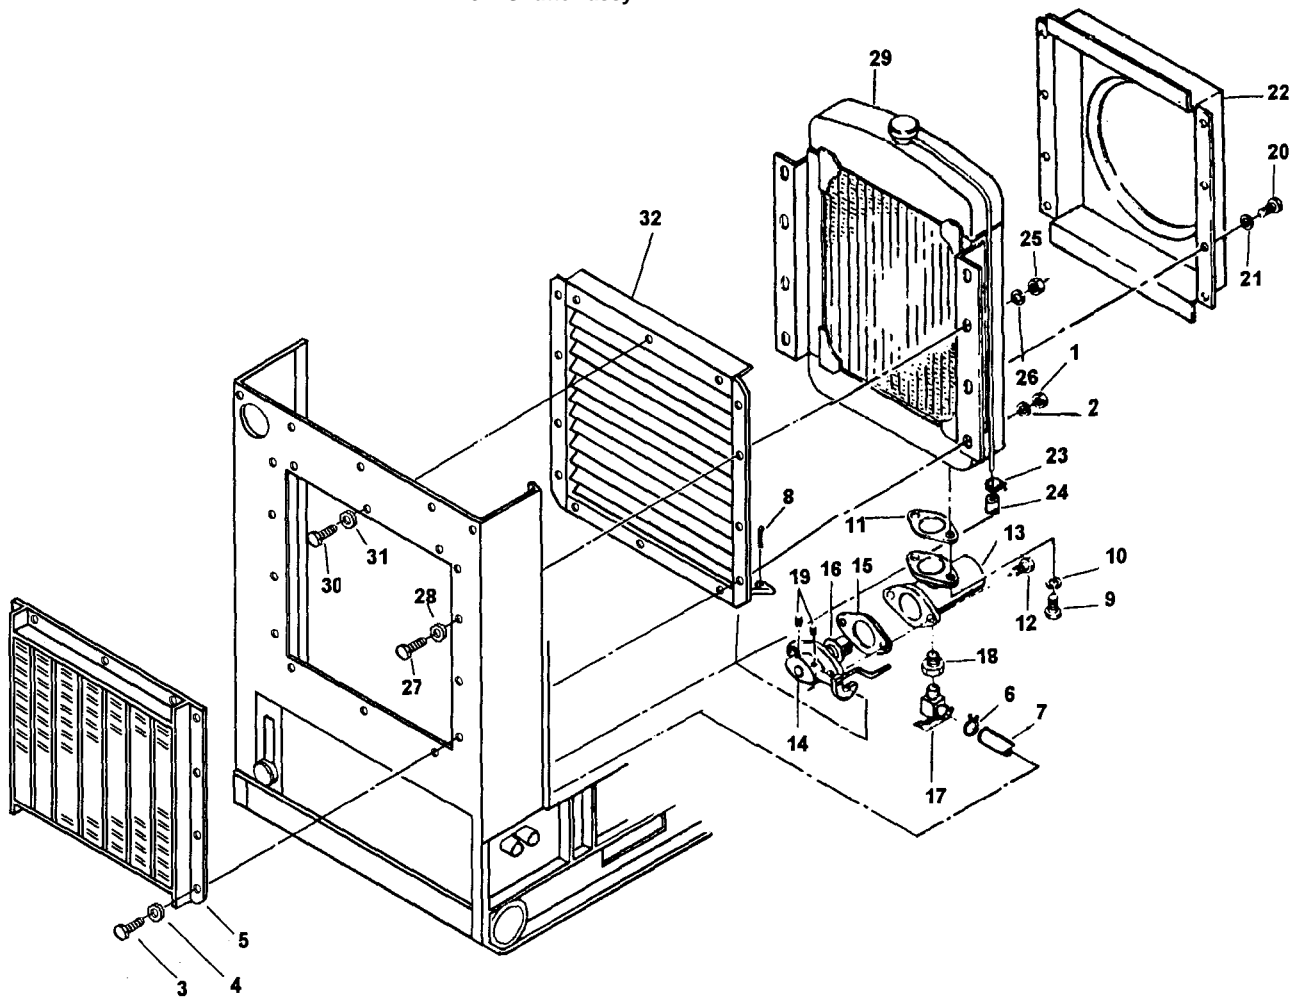
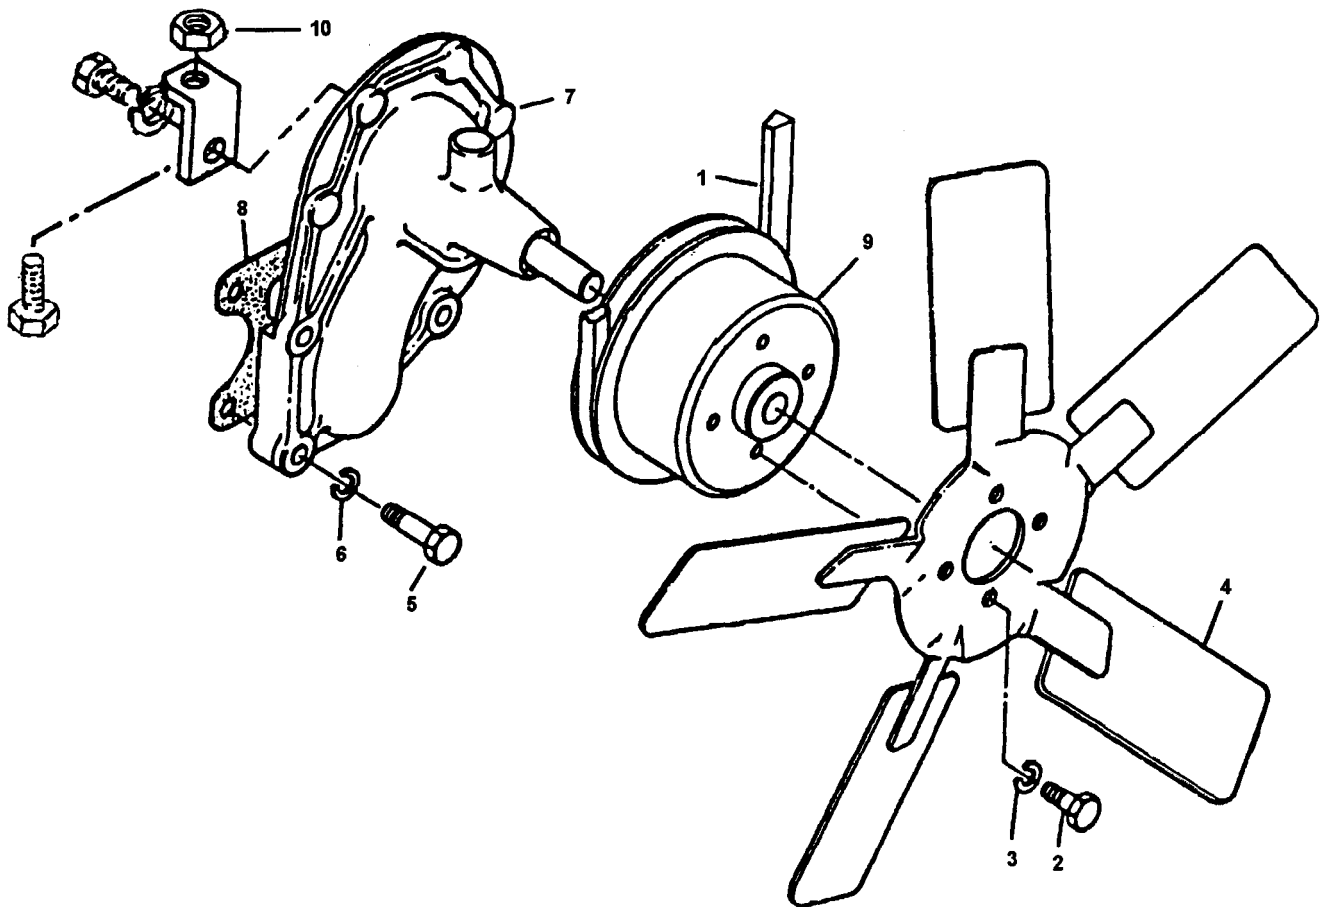

Figure 4-23. Grille, Radiator, and Shutter Assembly, Exploded View
Figure 4-25. Water Pump, Cooling Fan and V-Belt, Removal and Installation
- a. Removal. Remove nuts (1, Figure 4-23), lockwashers (2), screws (3), flatwashers (4) and remove grille (5).
- (1) Clean grille with a mild soap and water solution, rinse with clean water and dry thoroughly.
- (2) Inspect grille for cracks, corrosion, broken welds, dents, and other damage.
- (1) Repair grille by straightening cross members and removing minor dents.
- (2) Replace grille if damaged beyond simple repair.
- d. Installation. Install grille (5, Figure 4-23), flatwashers (4), screws (3), lockwashers (2), and nuts (1).
- (1) Drain radiator and disconnect radiator hoses (paragraph 3-27).
- (2) Loosen clamp (6, Figure 4-23) and remove drain tube (7).
- (3) Remove cotter pin (8) to disconnect shutter control linkage.
- (4) Remove screws (9) and Lockwashers (10) to remove control assembly and gasket (11). Discard gasket.
- (5) Remove screws (12) to separate thermostat housing (13) from linkage (14).
- (6) Remove gasket (15) and thermostat (16). Discard gasket.
- (7) Do not remove drain cock (17) and adapter bushing (18) unless damage is present and replacement is necessary.
- (1) Loosen setscrews (19, Figure 4-23). Push upon shutter control linkage manual control until shutter vanes are sealed, then tighten setscrews.
- (2) If removed, install adapter bushing (18) and draincock (17).
- (3) Install thermostat (16) and new gasket (15).
- (4) Attach linkage (14) to thermostat housing (13) and secure with screws (12).
- (5) Install control assembly and new gasket (11), lockwashers (10), and screws (9).
- (6) Connect shutter control linkage and install cotter pin (8).
- (7) Install drain tube (7) and tighten damp (6).
- (8) Connect radiator hoses and install attaching hose damps and refill radiator.
- (1) Remove front top housing panel and doors (paragraph 4-85).
- (2) Remove shutter control thermostat and housing (paragraph 4-37).
- (3) Remove fan guards (paragraph 3-31).
- (4) Loosen clamps (23, Figure 4-23) and disconnect overflow tube (24).
- (5) Remove grille (paragraph 4-36),
- (6) Remove nuts (25, Figure 4-23), lockwashers (26), screws (27) and flat washers (28) to remove radiator (29).
- (1) Position radiator (29, Figure 4-23), to install flat washers (28), screws (27), lockwashers (26), and nuts (25).
- (2) Install grille (paragraph 4-36).
- (3) Connect overflow tube (24, Figure 4-23) and tighten clamps (23)